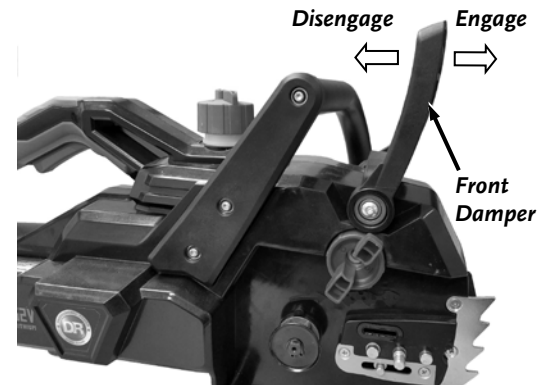

Figure 6
3. Check to make sure that the Chain Brake is disengaged by pulling back on the Front Damper (**Figure 6**).
2. Check to make sure that the Chain Brake is not engaged, by pulling back on the Front Damper (**Figure 6**).